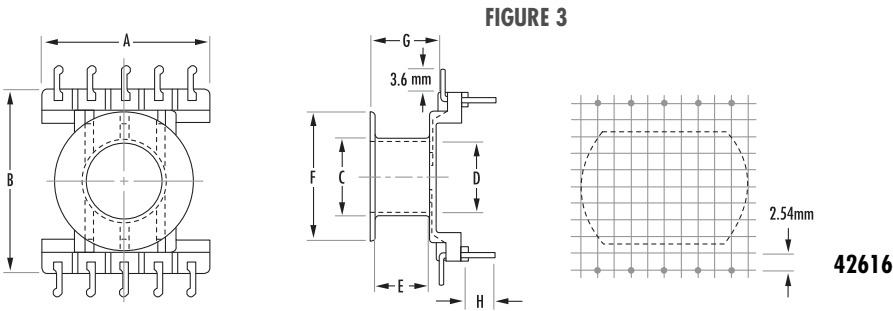

FIGURE 4
*reference figure 4 for board clearance